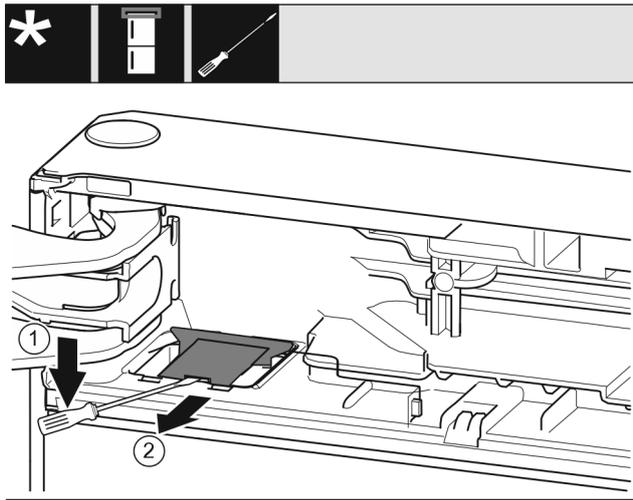

Fig. 9
- ▶ Unlatch the cover with a slotted screwdriver and lift it up. *Fig. 9 (1)*
- ▶ Take out the cover. *Fig. 9 (2)*